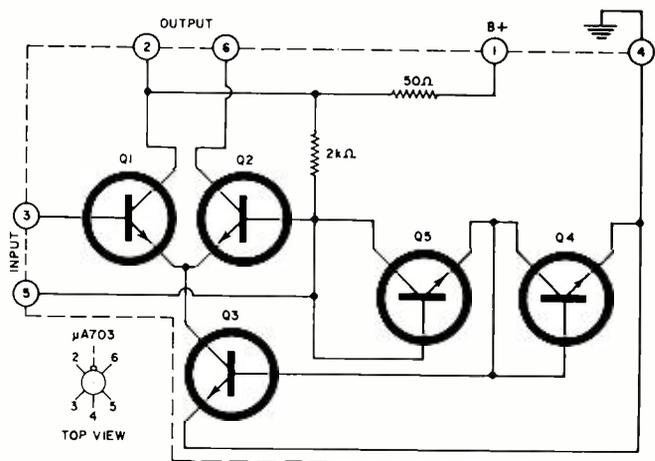
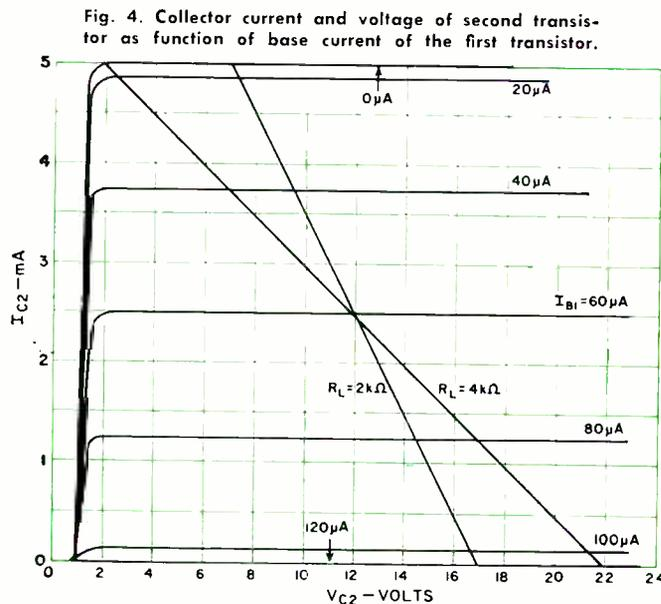

Fig. 3. Circuit diagram of the μ A703 integrated circuit. Transistor Q3 acts as the current source for Q1 and Q2.
Fig. 4. Collector current and voltage of second transistor as function of base current of the first transistor.
A complete diagram of the integrated circuit used in the i.f. strip of the new Scott receiver is shown in Fig. 3. Here, transistor Q3 acts as the current source for transistors Q1 and Q2 because its collector impedance remains very high for collector voltages as low as 0.3 to 0.4 volt. Transistors Q4 and Q5 are connected as diodes and are identical to the other three transistors in the circuit. Since all transistors are identical, the collector currents of transistors Q3 and Q4 will also be identical. Consequently, the current through current-source transistor Q3 will be approximately equal to the current through the 2000-ohm resistor connected from the filtered "B+" terminal (1) to the diode-connected transistors Q5 and Q4. The current through transistor Q3 will be equally divided between transistors Q1 and Q2. Since all current is supplied from the "B+" supply, the idling current through transistor Q2 will be approximately one-fourth of the total supply current, or 2.3 mA out of 9.2 mA total.
The "collector curves" of the integrated circuit of Fig. 3 are shown in Fig. 4. They look very similar to normal transistor curves except that collector current does not begin to flow unless the voltage at the second transistor collector is greater than 1.5 volts and maximum second transistor collector current occurs for zero first-transistor base current.